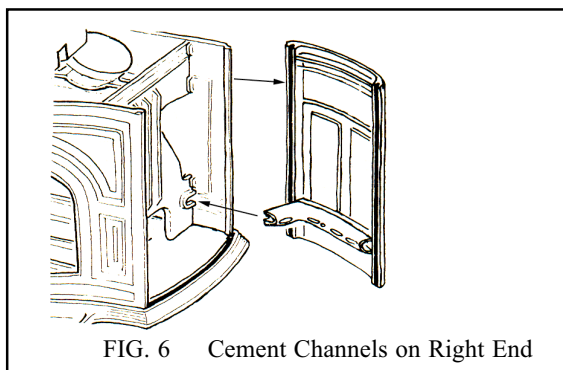

FIG. 6 Cement Channels on Right End
*Cement the channels of the Right End Plate (FIG. 6)*